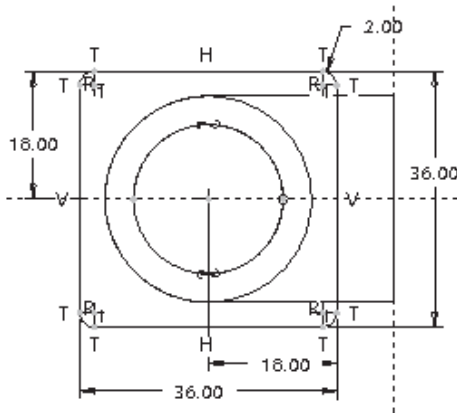

Figure 7-91 Sketch with dimensions and constraints
- Create the third and fourth extrude features on the two ends of the swept feature respectively, refer to Figures 7-91 and 7-92.
5. Draw the sketch of the extrude feature and apply constraints and dimensions, as shown in Figure 7-91.